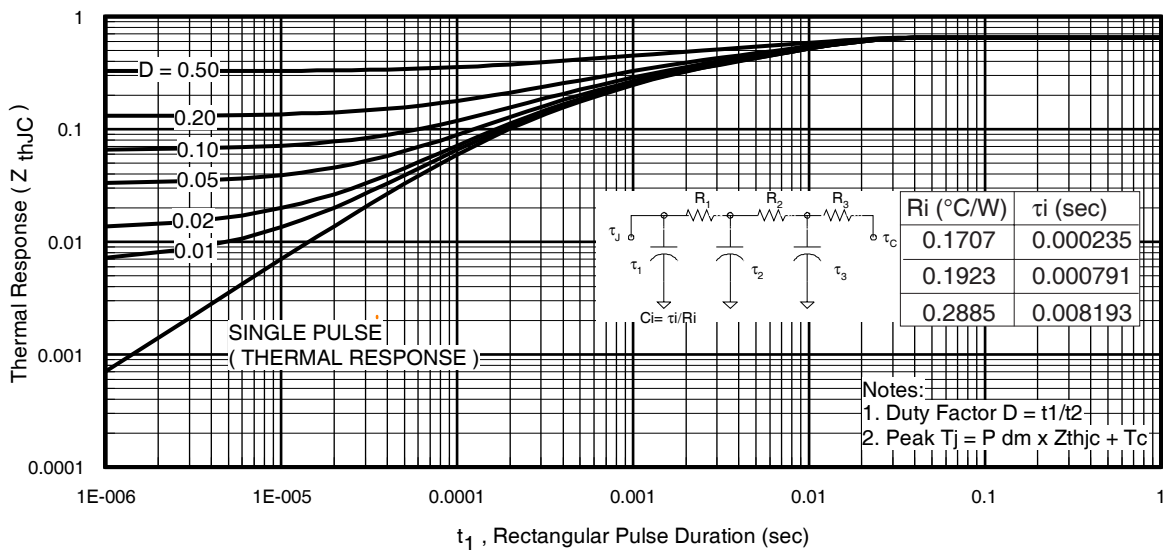

Fig 11. Maximum Effective Transient Thermal Impedance, Junction-to-Case
- ① Repetitive rating; pulse width limited by max. junction temperature. (See fig. 11).
- ② Limited by T_{Jmax} , starting $T_J = 25^\circ\text{C}$, $L = 0.064\text{mH}, R_G = 25\Omega, I_{AS} = 88A, V_{GS} = 10V$. Part not recommended for use above this value.
- ③ Pulse width $\leq 1.0\text{ms}$; duty cycle $\leq 2\%$.
- ④ $C_{oss\text{ eff.}}$ is a fixed capacitance that gives the same charging time as C_{oss} while V_{DS} is rising from 0 to 80% V_{DSS} .
$Z_{thJC}(D, t_{av})$ = Transient thermal resistance, see figure 11)